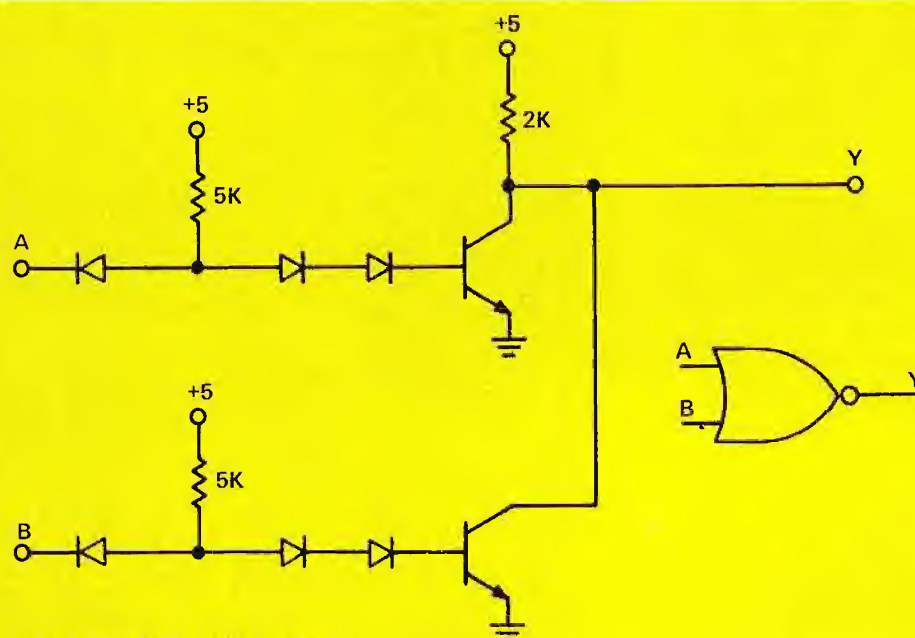

Figure 19. Prototype DTL NOR Gate.
A prototype DTL NOR gate can be constructed by combining two basic inverter circuits in the manner illustrated by Fig. 19. In this case, a logic HIGH at either A or B (or both) will cause the output terminal (Y) to go LOW, since one transistor or the other will conduct and provide an effective